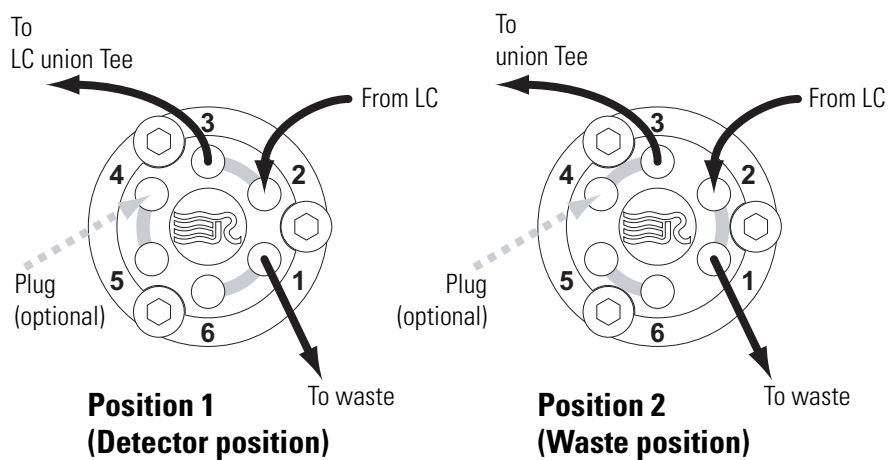
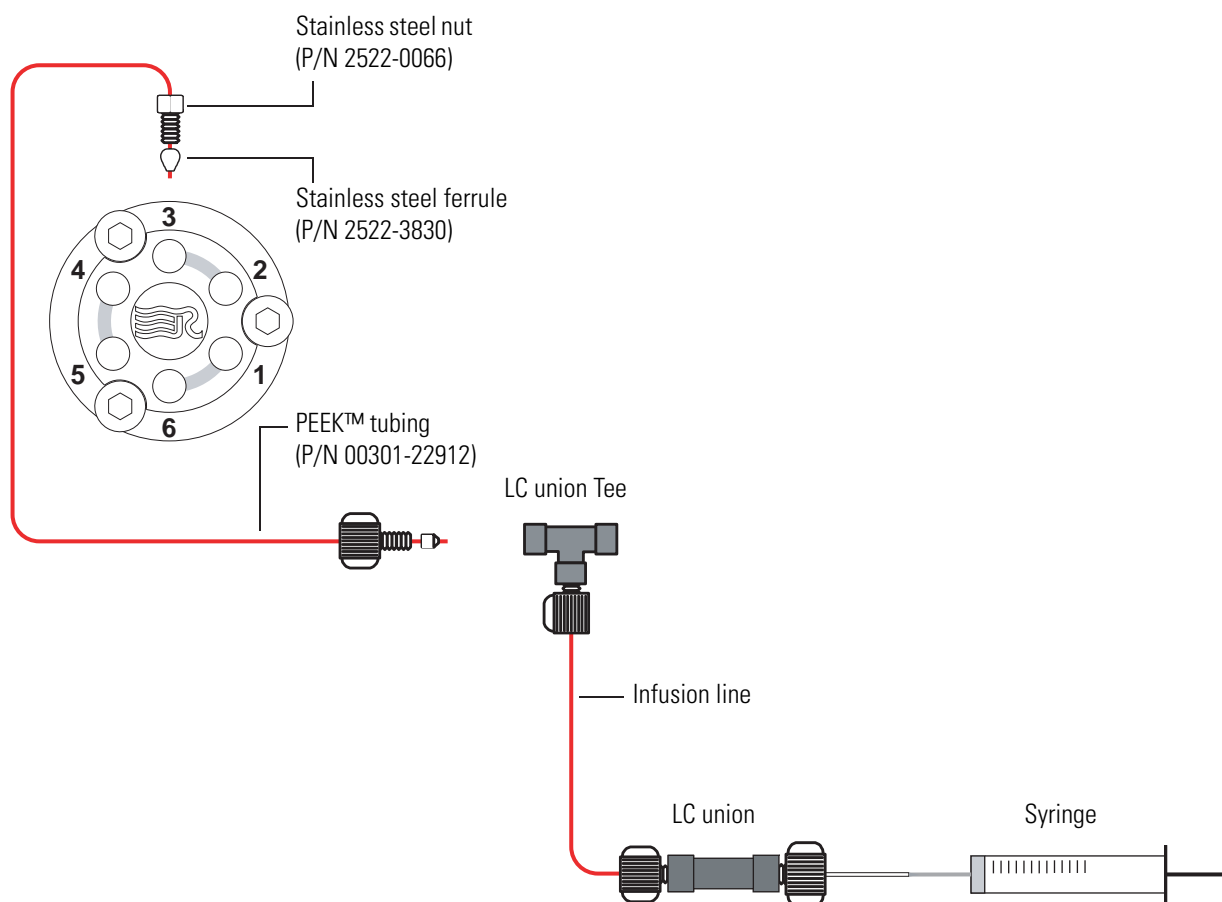

Figure 5-11. Six-port switching valve connections
Figure 5-12. Connecting the LC union to the union Tee
2. With a fingertight fitting and a ferrule, connect the other end of the tubing to the free end of the union Tee. See Figure 5-11 and Figure 5-12.
1. With a fingertight fitting and a ferrule, connect a length of PEEK™ tubing to port 2 of the switching valve. Figure 5-11 on page 5-26 shows the ports of the switching valve.
1. With a fingertight fitting and a ferrule, connect a length of red PEEK™ tubing to port 1 of the switching valve. Figure 5-11 on page 5-26 shows the ports of the switching valve.